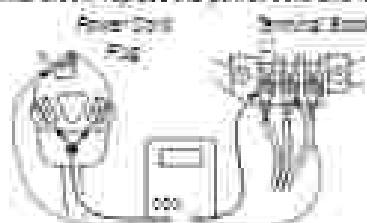

Figure 3a - Plug-to-terminal connections for electric dryer.
3. With an ohmmeter, check for continuity between the neutral (N) terminal of the plug and the center contact of the terminal block. See figure 3a.
4. In a similar way, check which terminal of the plug is connected to the left-most contact on the terminal block and make a note of it. This will be L1 (black wire) in the wiring diagram. See figure 3a.
7. Check for continuity between the neutral (N) terminal of the plug and J1-4 (white wire) on the ACU.
8. With an Ohmmeter, check which terminal of the plug is connected to the right-most contact on the terminal block and make a note of it. This will be L2 (red wire) in the wiring diagram. See figure 3a.